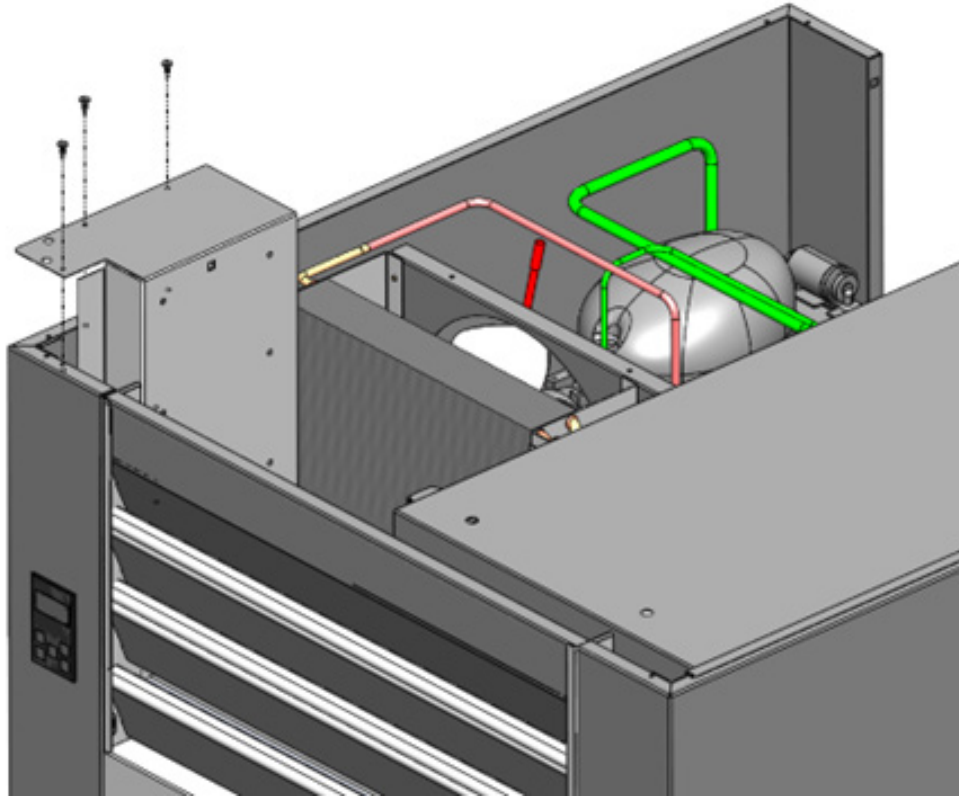

Fig. 4.12.3 Power Module Access (Control Board)
Use a #2 Phillips screwdriver to remove (3) screws (see figure 4.12.3) and lift on bracket.